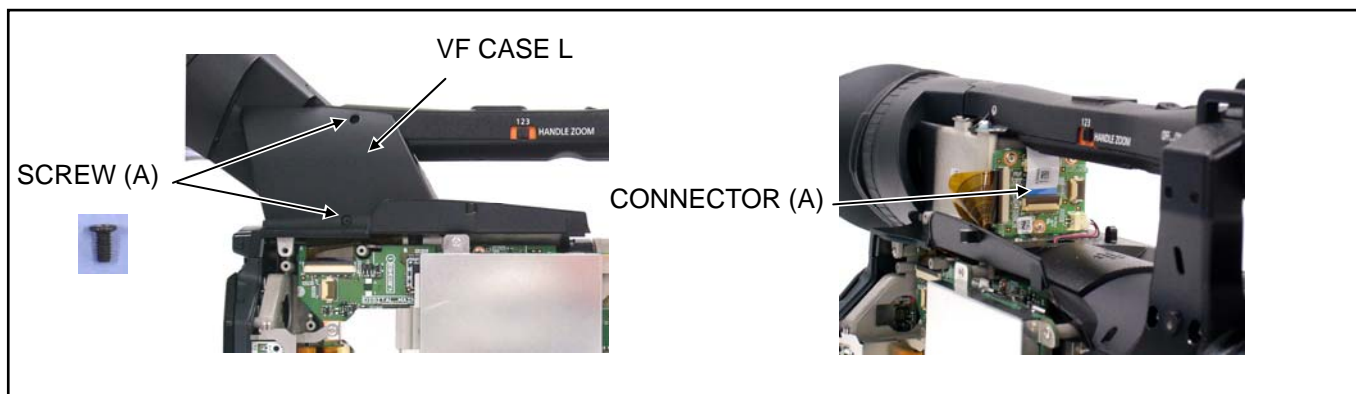

Figure 7-1
1. Remove the VF Case (R) Ass'y.
3. Unscrew the 2 screws (A) and the VF Case (L) as shown in figure 7-1.
4. Disconnect a connector (A) as shown in figure 7-1.